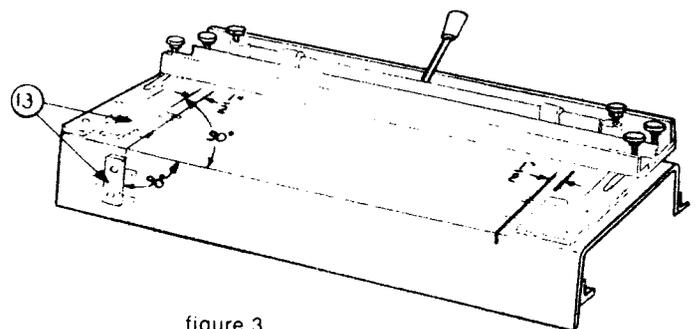

figure 3
Cutting a Flush Dovetail joint requires a 1/2" dovetail bit, a 1/2" comb, (supplied with dovetail fixture) and a 7/16" diameter router guide collar (fig. 6). Start by adjusting the stops (13) on the right side and left side of both the front and top. The stops should be adjusted so they are offset by the size of the comb being used, in this case 1/2", and 90° to the front edge of the frame (1), (fig. 3). Many times this adjustment can be made by adjusting only the stops on the top surface of the fixture. However, at times it may be necessary to adjust all four stops. To adjust the stops on the front of the fixture it will be necessary to remove the front clamp assembly by removing the two clamp adjusting knobs and then removing the clamping assembly.